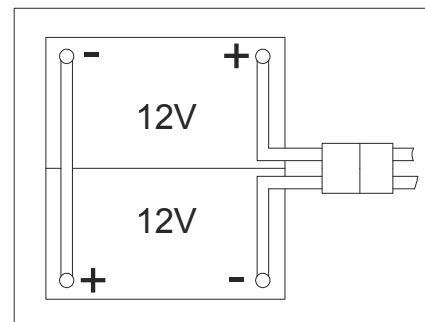

Figure 3
The machine requires two 12 V batteries, connected according to the diagram (Figure. 3).
11. Open the recovery tank cover (1) and check that the recovery tank (25) is empty; otherwise empty it with the drain hose. (22)
12. Close the recovery tank cover (1).
13. Overturn the recovery tank (25) carefully.
15. Route and install the battery cable as shown in (Figure3), then carefully tighten the nut on each battery terminal.
16. Place the protection cap on each terminal, then connect the battery connector (38).
17. Carefully lower the recovery tank (25).